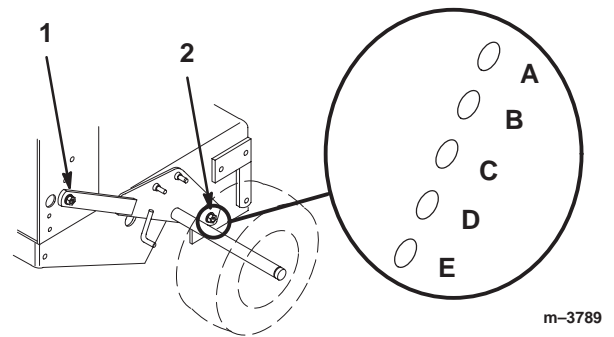

Figure 22
3. Loosen but do not remove the 2 axle pivot bolts and the 2 axle adjustment bolts (Fig. 22).
4. Place a jack under the rear center of the engine frame. Raise the back end of the engine frame up enough to remove front 2 axle adjustment bolts (Fig. 22).
5. Raise or lower the engine frame with the jack, so that front 2 axle adjustment bolts can be installed in the desired hole location (Fig. 22). A tapered punch can be used to help align the holes.